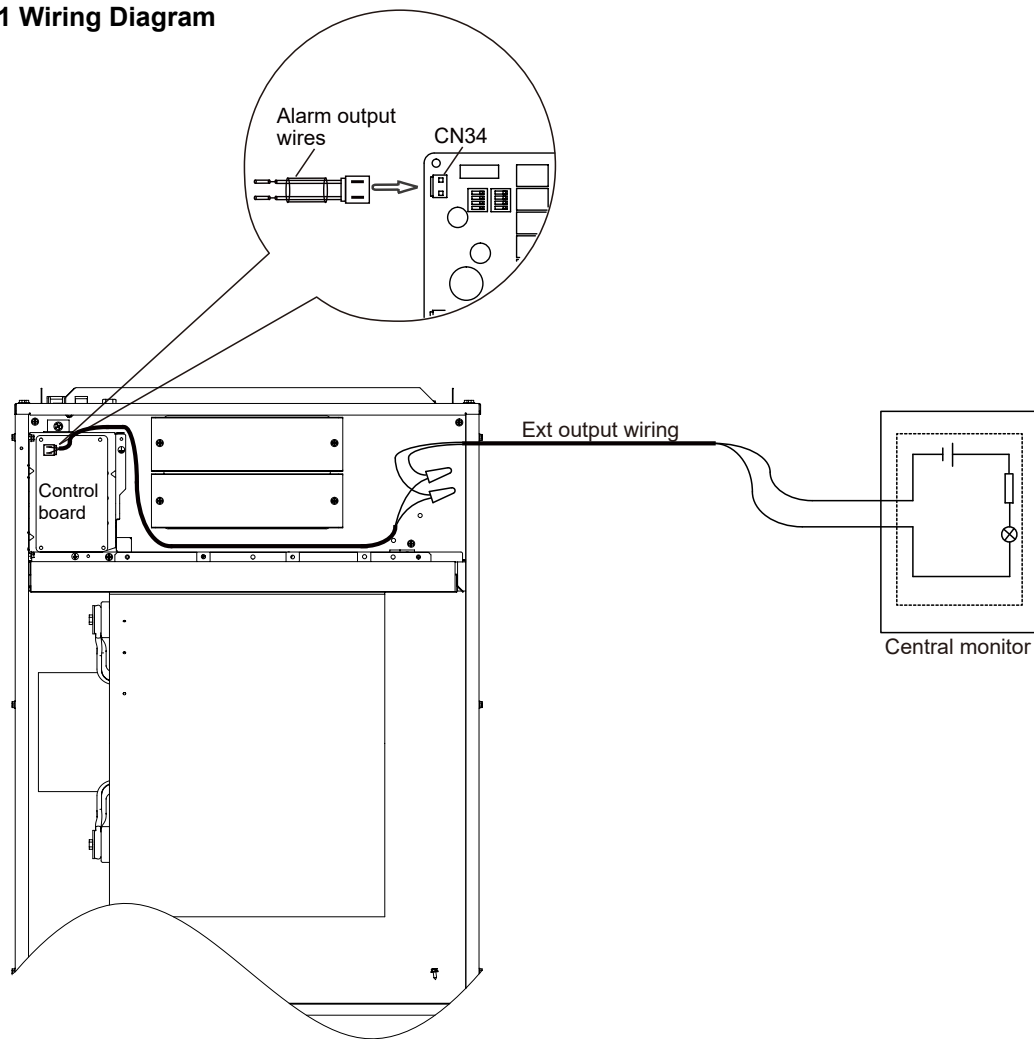

Fig.9-12
Step 1 : Take out the Alarm wires from the accessory bag and plug it into CN34 on the control board (see Fig.9-12).
Step 2 : Connect the Alarm wires with the central monitor (see Fig.9-12).